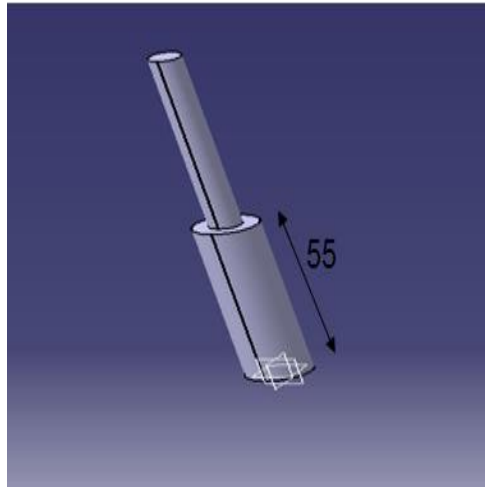

Figure 3.2:Frame Cylinders
2. cylinder: uses to rise & fall the metal frame. (**Figure 3.2**)